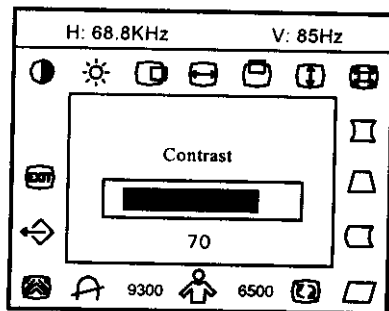

Figure 4 The OSD Message
1. Press the Shuttle Knob or OSD Key (7Glr only) to make the OSD window appear. See figure 4.
2. Rotate the Shuttle Knob to select the desired function. See figure 4.